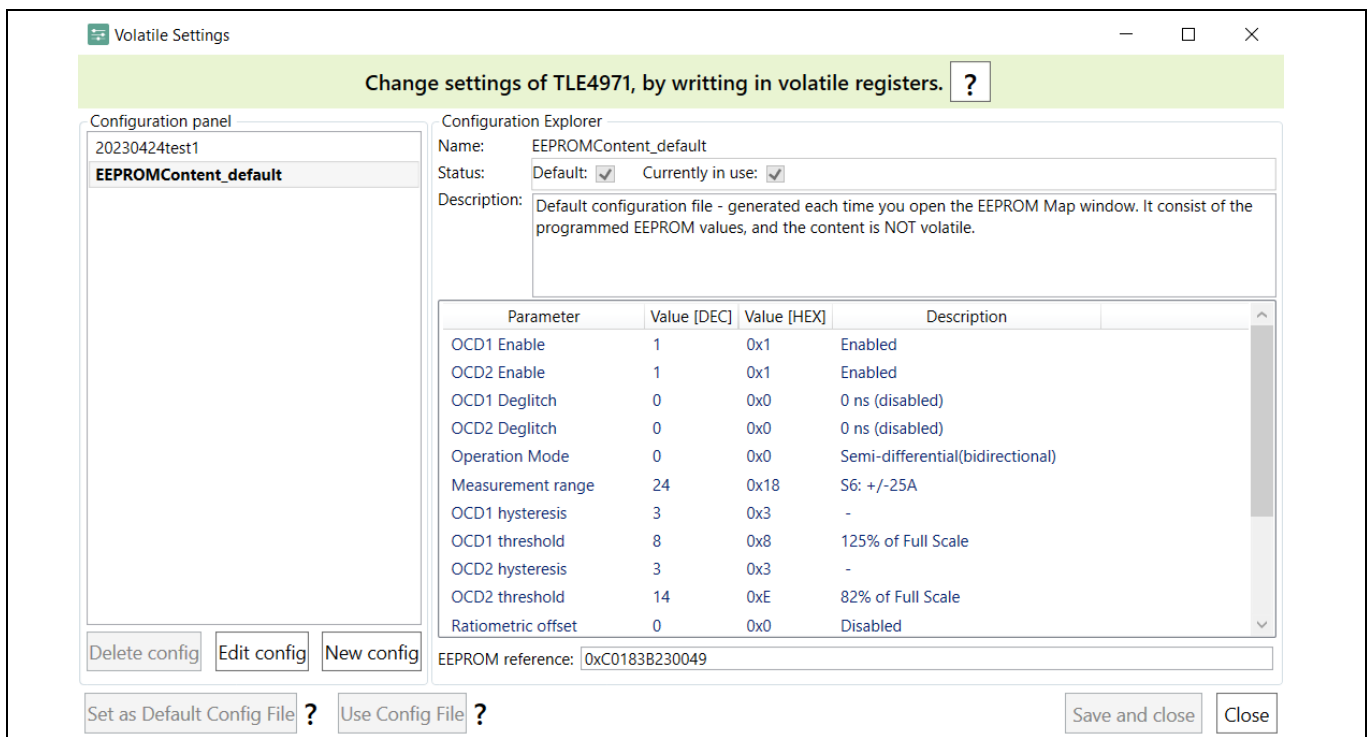
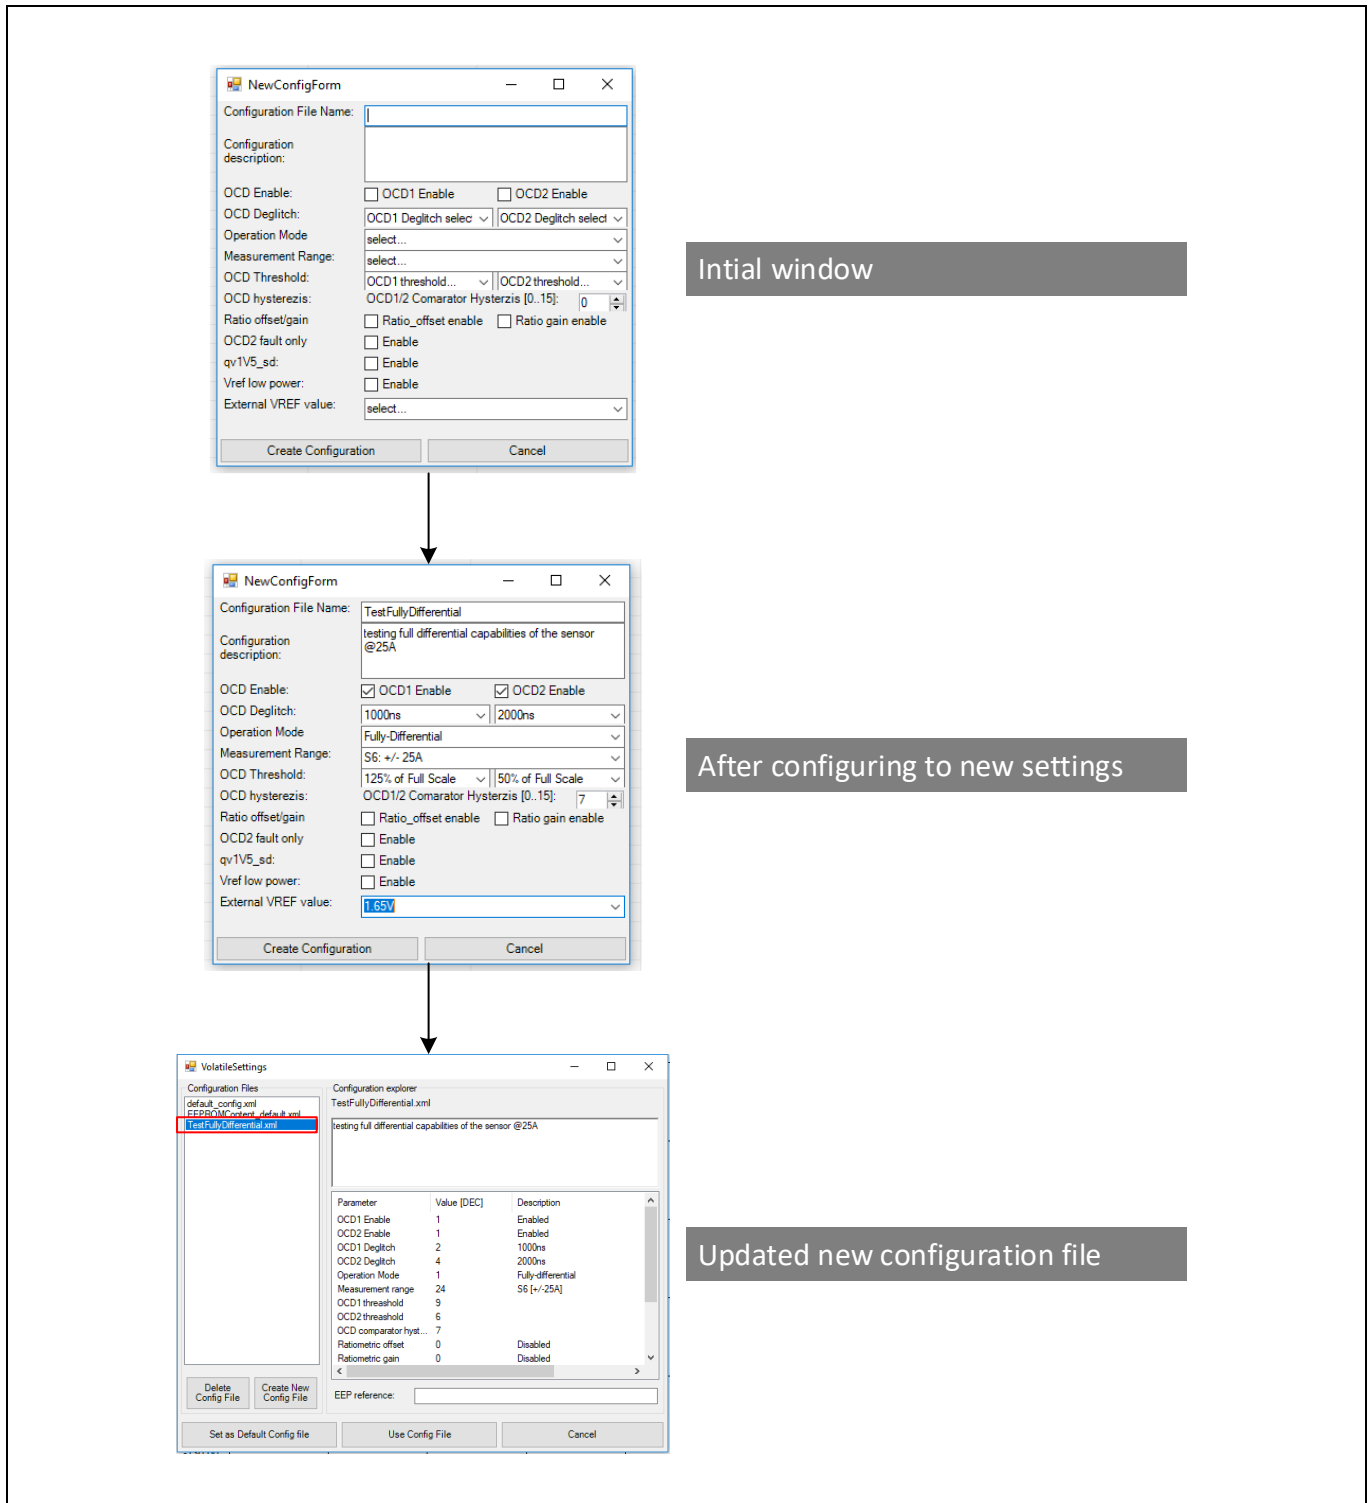

Figure 16 Volatile Settings Window
Figure 17 New Configuration File Creation
When the user selects the ‘VolatileSettings’ menu item, the window shown in Figure 16 will open, here, initially the user will find the existing configuration file which is “EEPROMContent_default.xml”. This file is automatically generated by the Software (SW) based on the preprogrammed EEPROM settings in the sensor. This main window components are described as follows.
- “Configuration Files” pane list (Figure 16) all configuration files are automatically stored under Users/<CurrentUser>/AppData/Local/InfineonCurrent2GoTemp\ConfigFiles. All XML files at this location will be parsed by the SW and checked if it is a valid sensor configuration.
- “Configuration Explorer” pane (Figure 16) displays the parameters stored by the configuration file (name, description, sensor parameters).
- “Delete Config File” (Figure 16), by pressing this button, the configuration file will be physically deleted from the disk and from the list.
- “Create New Config File” (Figure 16), by pressing this button, a new window will pop-up allowing the user to create a new configuration file which has shown in Figure 17.
- “Set as Default Config file” (Figure 16), by pressing this button a new configuration file – as copy of the selected one, named “default_config.xml”. If this configuration is found at startup, it will be automatically loaded into the sensor RAM.
- “Use Config File” (Figure 16), by pressing this button, the configuration parameters will be set into the RAM of the sensor.
The following Figure 17 shows the new configuration file creation flow to modify the existing current sensor parameters, where all text fields (name / description) shall have a value in the below shown figure. All selection boxes such as deglitch, Operation mode, measure range, threshold, VREF value shall have a selection. Finally, press “Create Configuration” button to save the parameters into a XML configuration file. This configuration is now accessible in the “Volatile Settings” window.